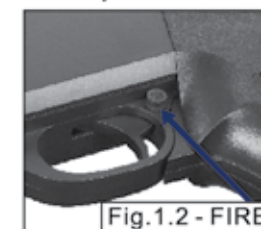

Fig.1.2 - FIRE
- The Safety/Fire button is on the "Fire" position if the button is up. (Fig. 1.2)